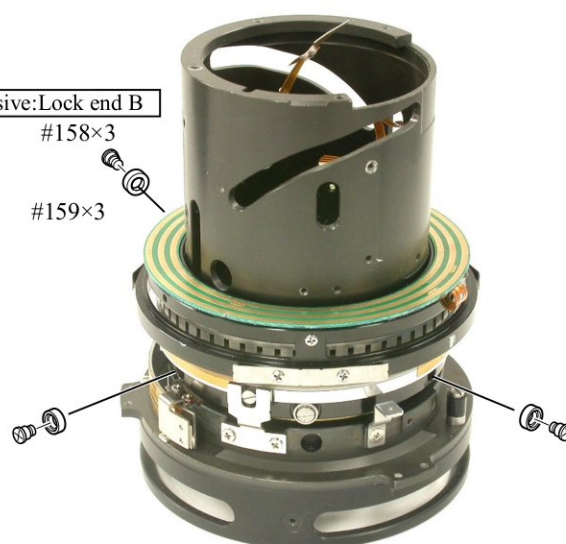

Fig.3
- Attach 3 screws (#158) and 3 rollers (#159). (ref. Fig.3)